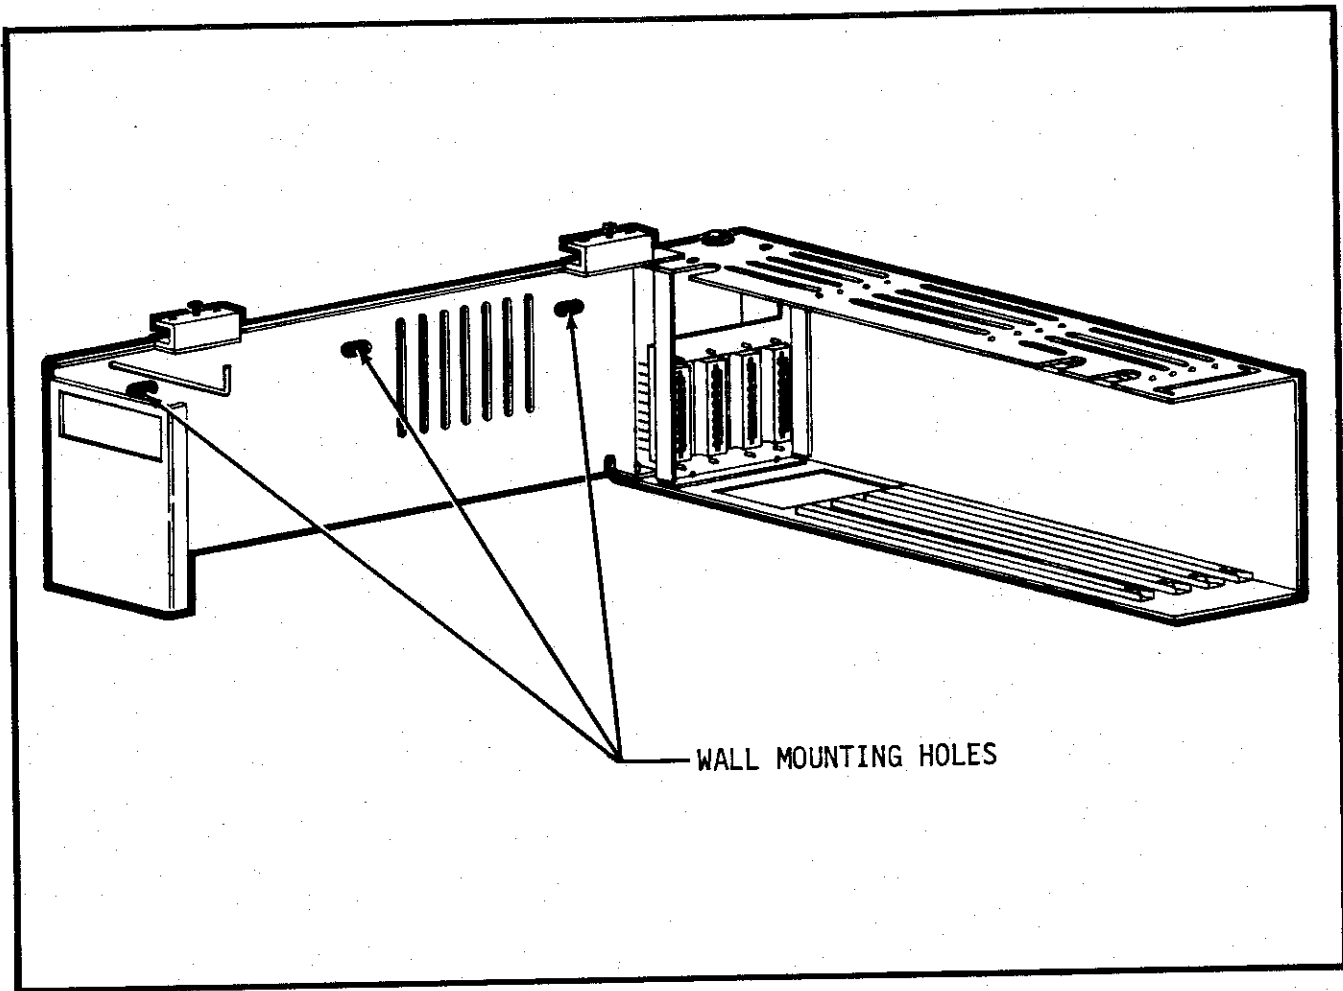

Figure 9 Wall Mounting the CF-168-31 Card File
**6.11** If the CF-168-31 card file is to be wall mounted, use the screw holes provided in the back plate (see Figure 9).